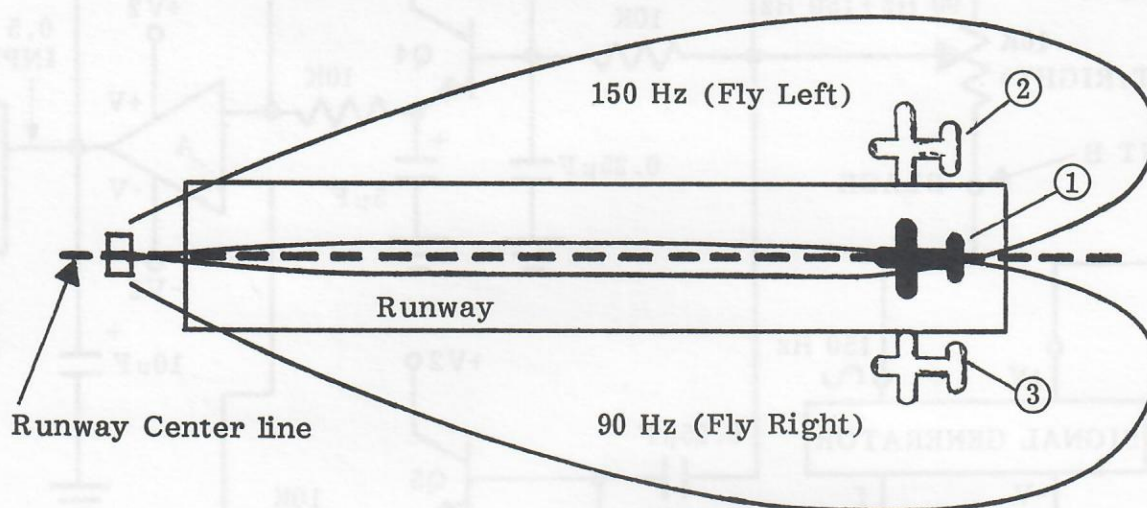

Figure 41 - 2 ILS Antenna Patterns
Both signals are of equal magnitude at the center line of the runway. The aircraft receiver will receive signals of equal amplitude of the 90 Hz and 150 Hz modulation if it is located on the center line of the runway (position 1). If the aircraft is located to the right of the runway center line (position 2) the 150 Hz modulated signal will be much stronger than the 90 Hz modulated signal and the pilots ILS indicator will move to the left indicating "Fly Left" to return the aircraft to the runway center line. The opposite situation will occur if the aircraft is to the left of the runway center line in the position indicated as (3) in Figure 41 - 2.